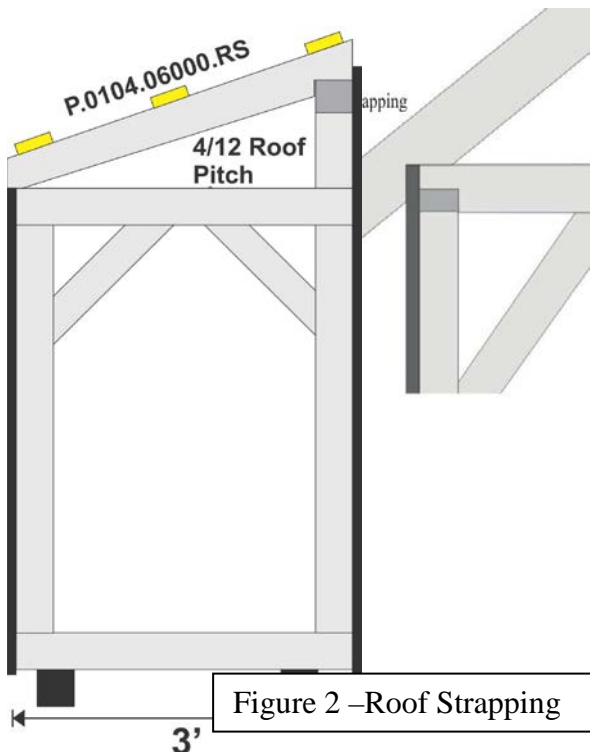

Figure 2 -Roof Strapping
*IMPORTANT Hold top course down 2" from ridge to allow nailing for ridge cap. Figure 2. Use two 6d nails at each rafter. When placing the last piece of strapping, place a level or straight edge against the rafters to be sure that the strapping does not hang below the rafter edge. Figure 3.